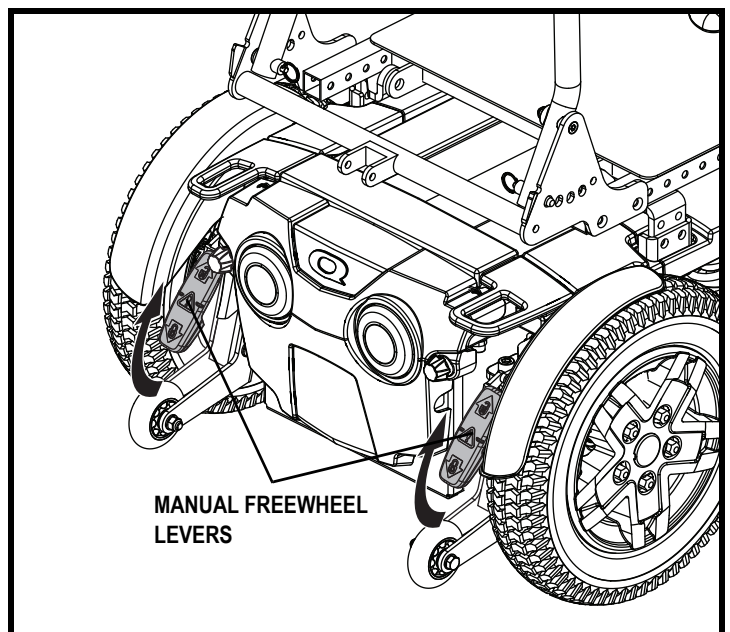

Figure 11. Freewheel Mode (Drive Disengaged)
3. Pull the two levers upward to disengage the drive motors (freewheel mode). See figure 11.